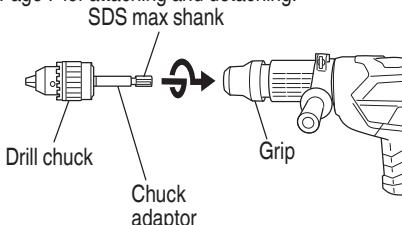

Fig. 16
(2) Attaching chuck adaptor to drill chuck (Fig. 16)